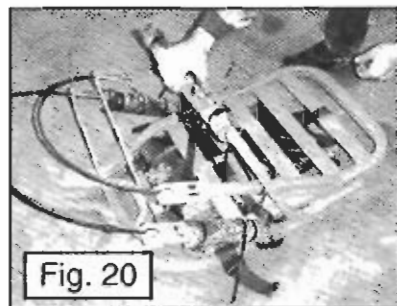

Fig. 20
C. Fold up the folding bar as shown in **Figure 20** and secure the Python XLS or Revolution Seat to the Python XLS or Revolution platform with the green strap with the tourniquet buckle. This will prevent the Python XLS or Revolution and Python XLS or Revolution Seat from making noise as you hike to your hunting location.